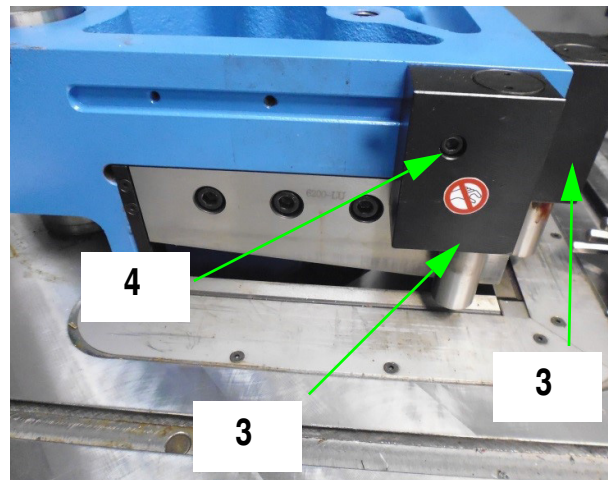

Fig. 16: Change upper knife
Step 4: For disassembling the downholder device 3, unscrew the corresponding fastening screw 4 (Fig. 16).